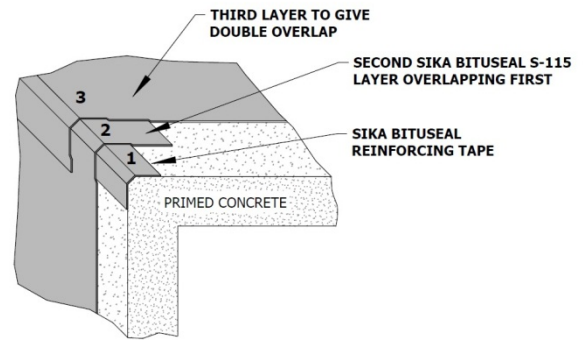

FIG. 11
- iv) At a top angle or corner the horizontal membrane should overlap onto the vertical. (See fig. 11).